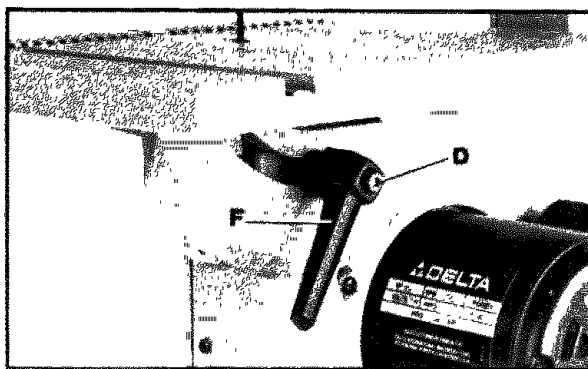

Fig. 6
6. Reassemble table locking handle (F - Fig. 6) on stud and replace screw (D) and spring. **NOTE:** Handle (F) is spring loaded and can be repositioned on the stud by pulling out the handle and repositioning it on the stud.